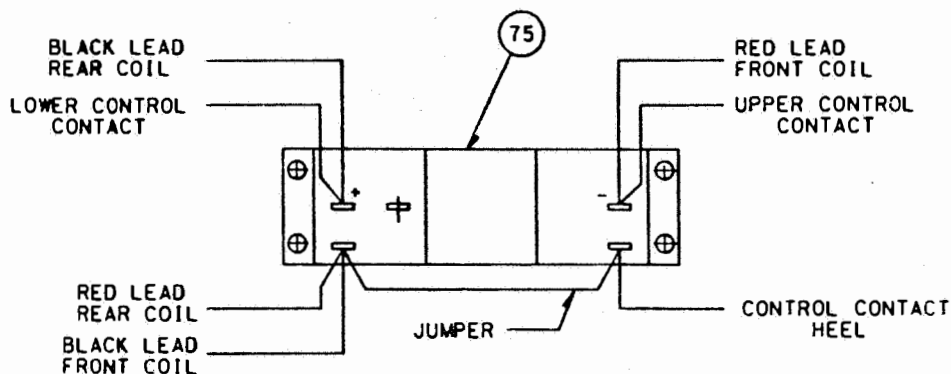
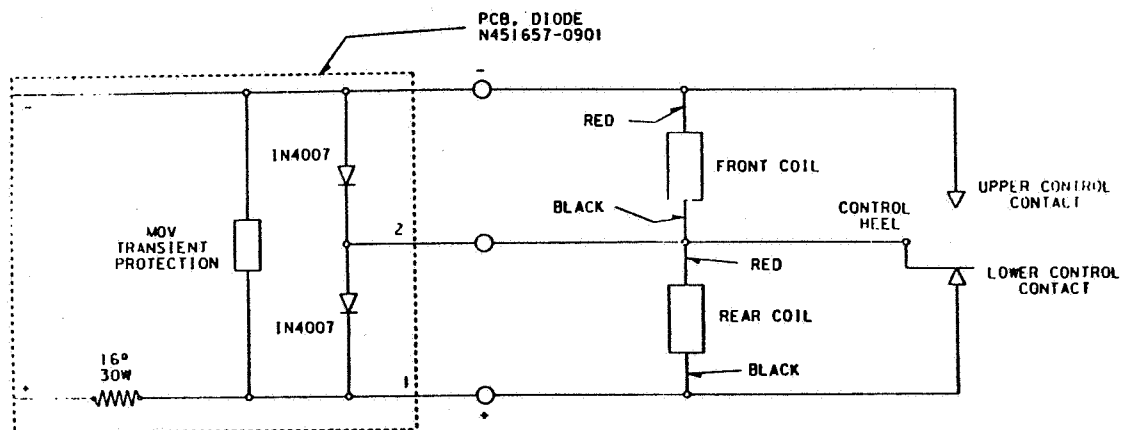

Figure 7. Revised Relay Wiring (Internal)
Figure 8. Overall Modified Circuit Diagram
- e. Referring to Figure 7, rewire the block. (Figure 8 shows the overall circuit diagram.)
- f. Ensure that the relay, base and diode board are wired as shown in Figure 8, then perform a calibration check (paragraph 4.6) to verify proper operation.